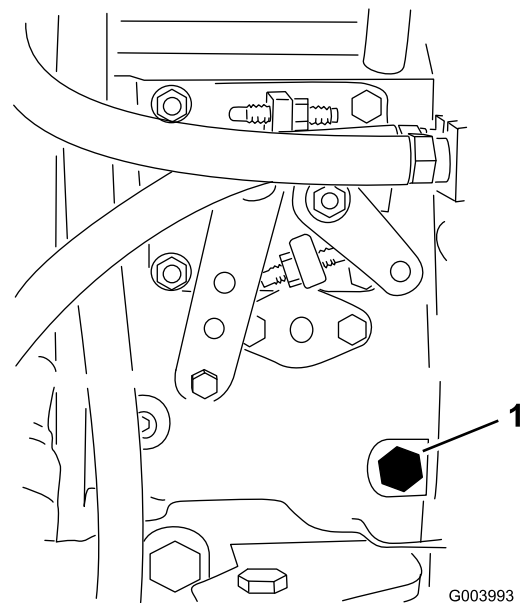

Figure 36
3. Open the air-bleed screw on the fuel-injection pump (Figure 36) with a 12 mm wrench.